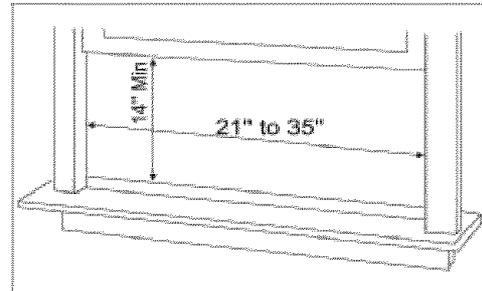

Fig. 1
1. If your air conditioner *cabinet* 17.7" wide, it will fit window openings 21" to 35" in wide. Minimum opening height is 14" from bottom of sash to sill. See Fig. 1.